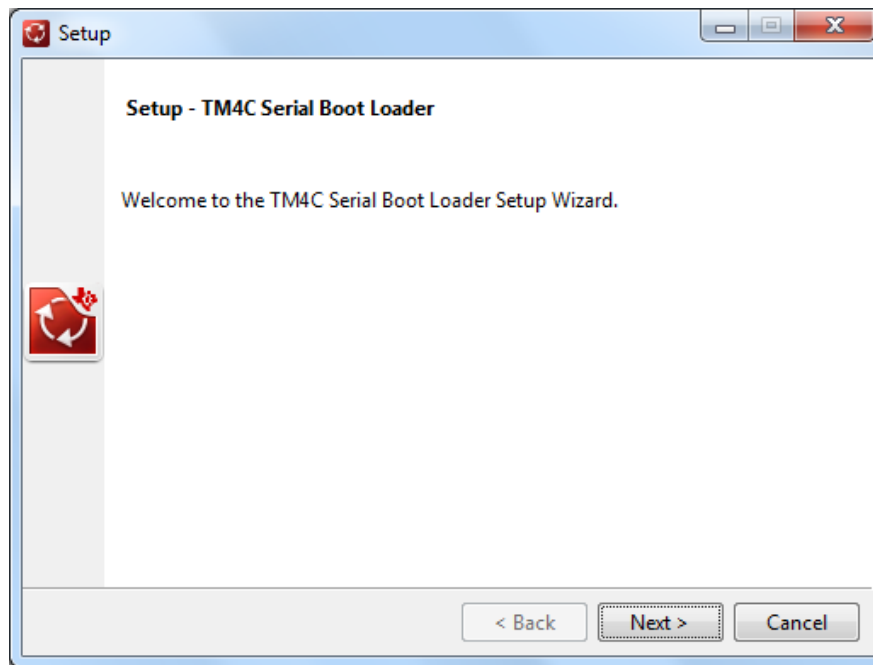

Figure 25. Software Installation Step-1
1. After downloading the serial bootloader software on the Windows PC, right click the .exe file and “Run as administrator”. You will be prompted by the installer, as shown in Figure 25. Click “Next”.